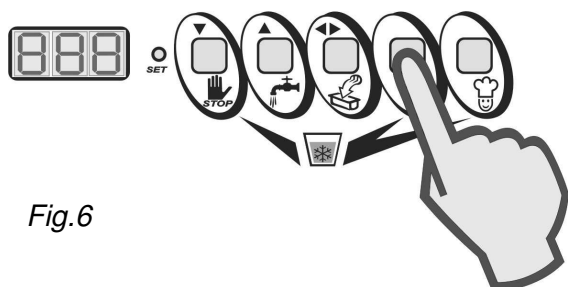

Fig.6
- With the cycle in progress, press the SEMIAUTOMATICO (SEMI-AUTOMATIC) (Fig. 6) key again.